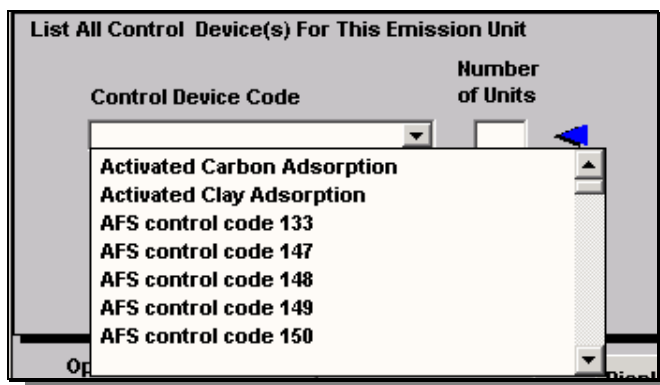

Figure 6-6: Control Device Codes
- 13. List All Control Devices For This Emission Unit:** Click on this field and a drop-down list of control devices will appear (Figure 6-6). If there is a control device associated with the emission unit, select the most appropriate control device provided. Leave this field blank if no control device is associated with this emission unit.